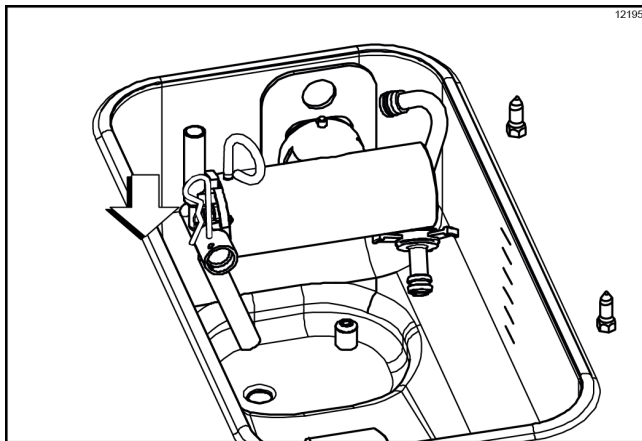

Figure-166
- Remove the cotter pin from the pump. Stand the mix feed tube in the corner of the mix hopper. Place the cotter pin in position in the outlet fitting of the pump. (See Figure-166.)